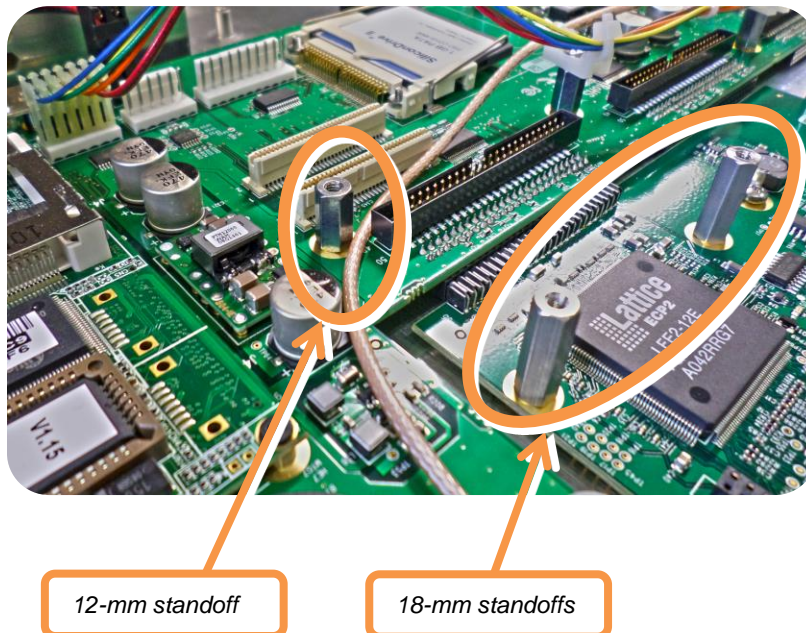

Figure11: Gigabit Ethernet option card installation
- (e) On the SecureSync mainboard, remove the screw located under the J11 connector and replace with the supplied 12-mm standoff (see Figure 11).